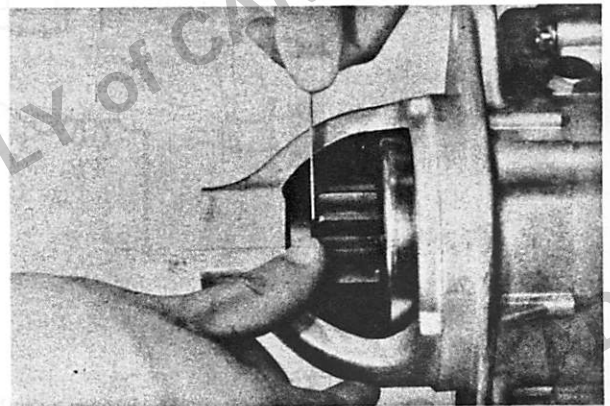

Fig. 22-40
- 4) Measure the gap between the pinion and the pinion stopper. (Refer to Fig. 22-40.)